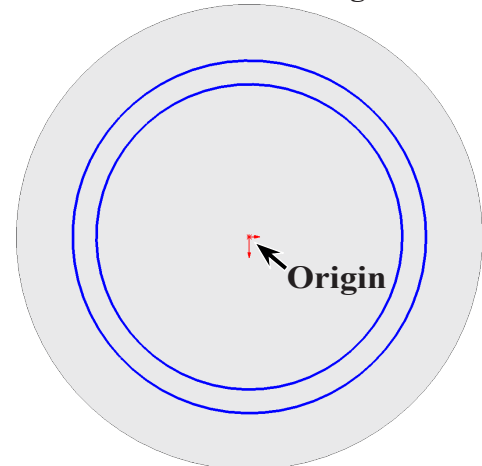

**Fig. 5**
Step 1. Click **Top Plane**  in the Feature Manager and click **Sketch**  on the context toolbar, **Fig. 5**.